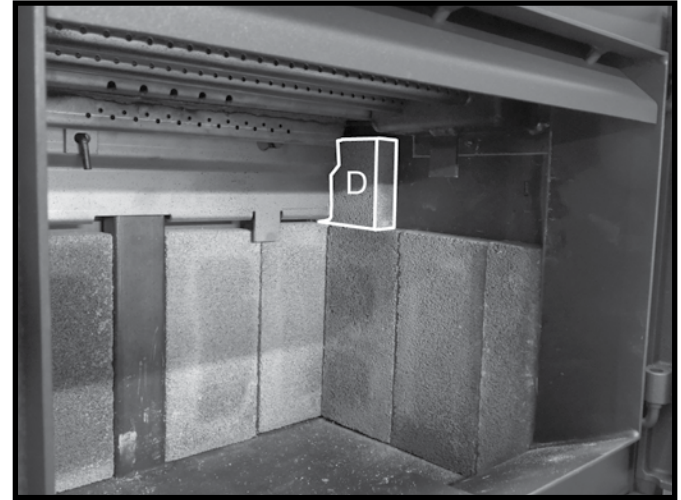

Figure 28: Small side wall firebrick in position.
6. Place a "D" firebrick on top of the previously placed "A" firebricks and slide this firebrick back toward the rear wall making sure that this firebrick tucks in behind the brick rail (Figure 28).